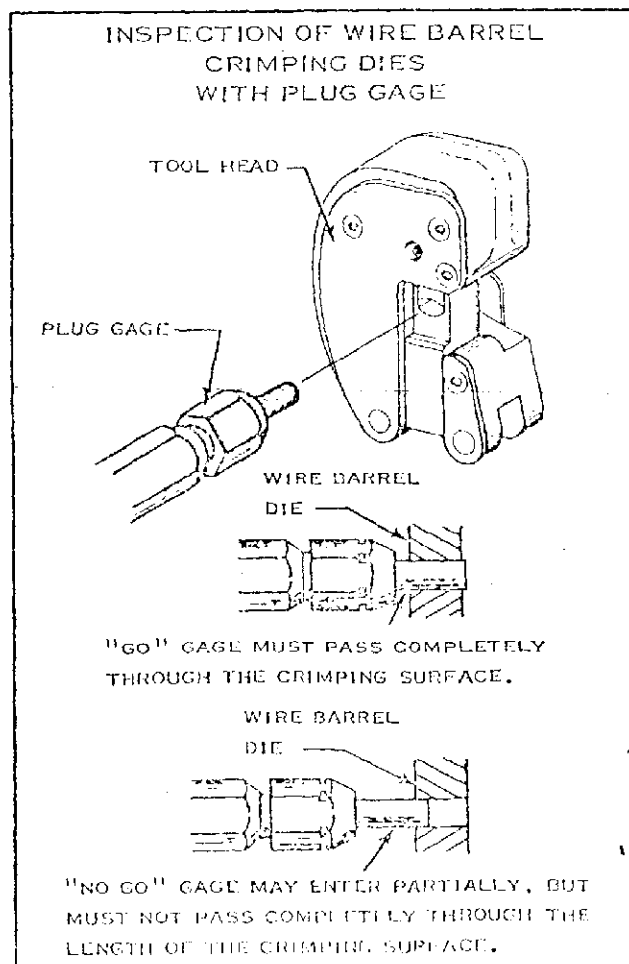

FIG. 5
- (c) Measure Tool Wire Barrel Crimping Die using the Plug Gage with Barrel Crimp dimensions given in Figure 4. Hold Gage in straight alignment with the Tool and carefully try to insert, without forcing, the GO element, and then the NO GO element. See Figure 5. The GO element must pass completely through the length of the crimping surface.